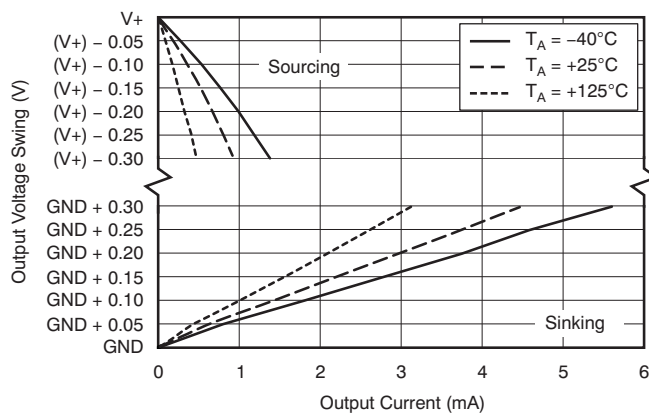

Figure 9.
(1) RTI: Referred-to-input.
(2) CMRR and PSRR are the same because  $V_{CM}$  is the supply voltage.
(3) See Typical Characteristics graph, *Output Swing to Rail* (Figure 9).